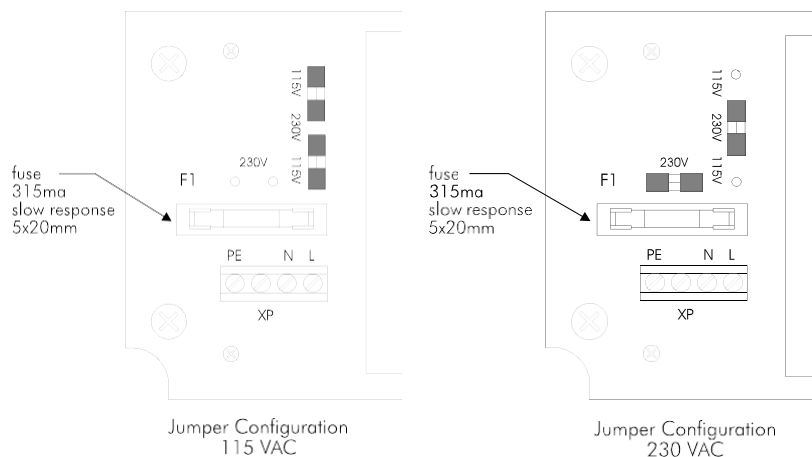

Figure 3-8. Power Supply Jumper Configuration
4. Make sure the jumper configuration matches the supply voltage. Change the jumpers if required (see Figure 3-8).